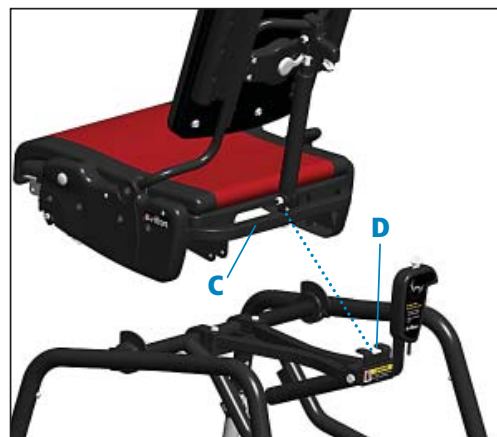

Figure 12c
Once front of seat is disengaged, pull entire seat and backrest unit towards front of chair and away from base until seat hoop (C) becomes completely disengaged from metal prongs (D) (see Figure 12c).